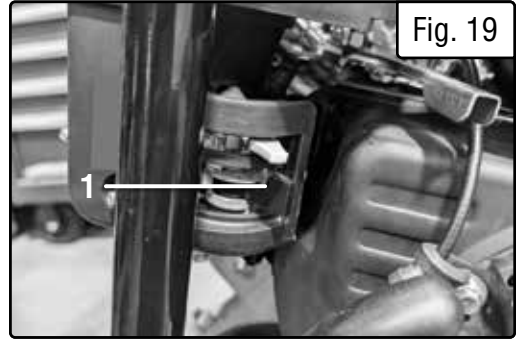

Fig. 19
1. Turn the fuel valve (Fig. 19 - 1) to the “OFF” position.